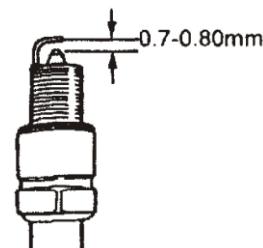

Fig. 14b
- Measure the spark plug gap using a spark plug gauge. If necessary, adjust the gap by carefully bending the side electrode. The gap should be between 0.70 mm and 0.80 mm (See Fig. 14b).